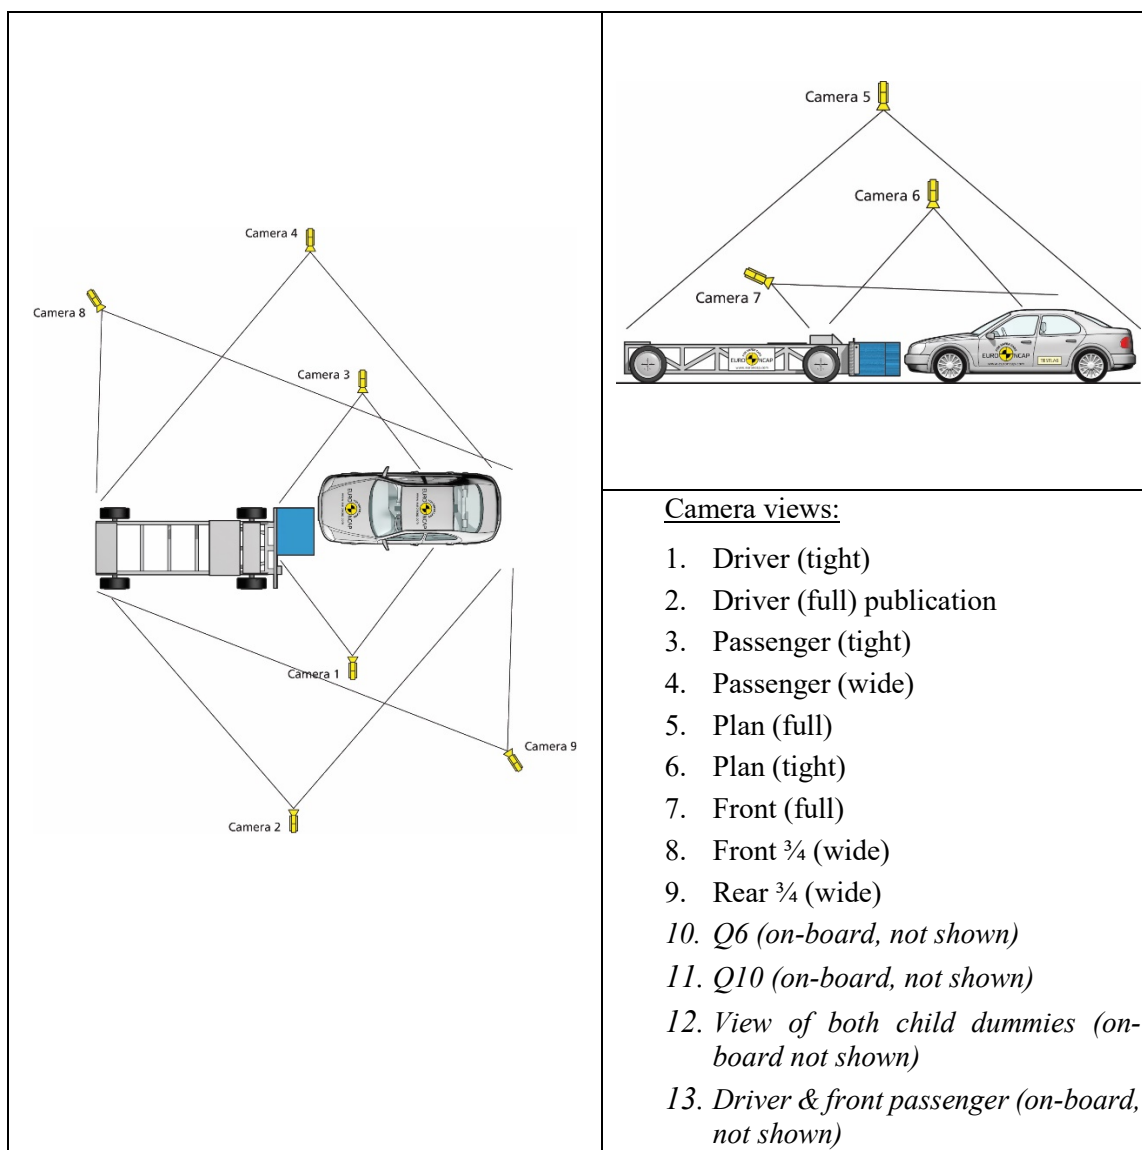

Figure 3: Locations for Cameras 1 to 9 (Frontal MPDB).
A minimum of 9 cameras should be installed around the test vehicle, positioned as indicated in Figure 3 below. Three (4) additional on-board cameras for child and driver dummy views are to be used. A separate camera (not listed) must record the crash in real time.